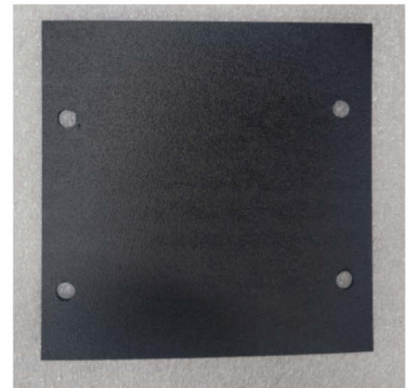

Figure 15.
15. Using a 5/16" drill bit to drill the 4x holes in the plastic sensor cover sheet. Figure 15.